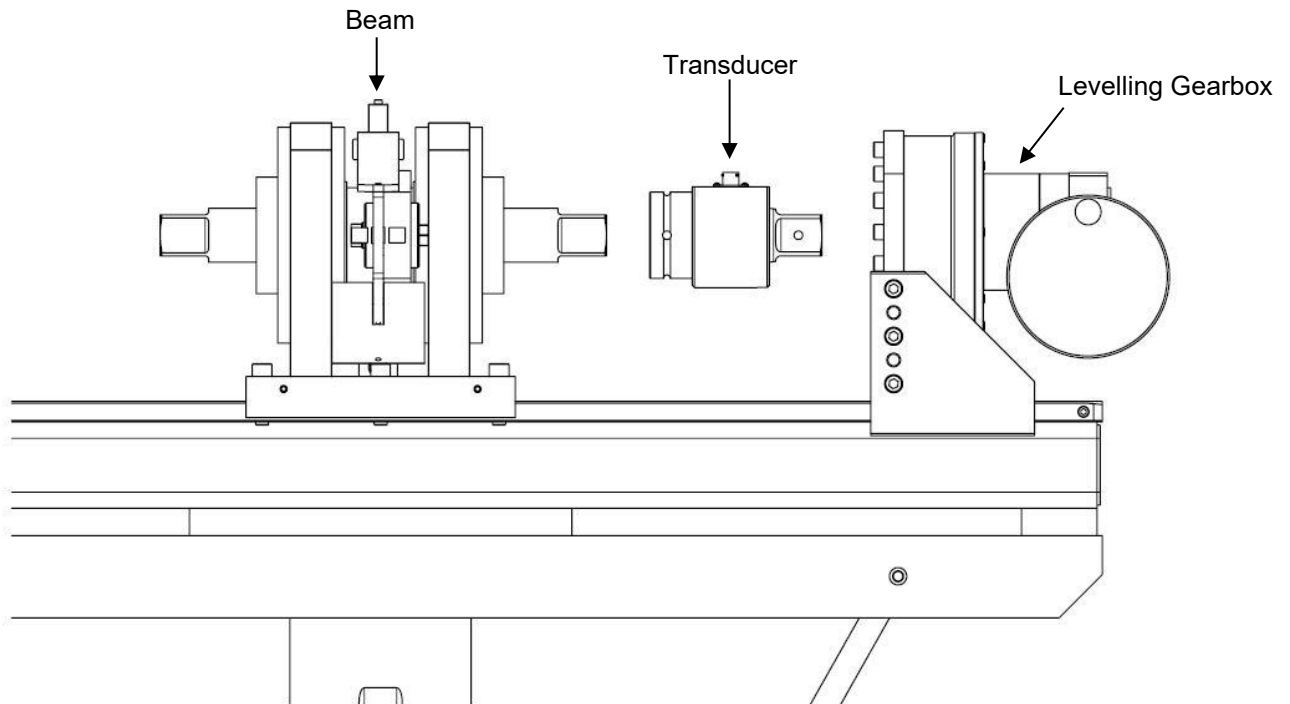

FIGURE 6 – Location of Transducer
2. Mount the transducer between beam & levelling gearbox using appropriate adaptors, see figure 6. Slide the levelling gearbox so the transducer drive squares are fully engaged.
3. Allow the required warm up time for transducer & display; a minimum twenty (20) minutes is recommended.